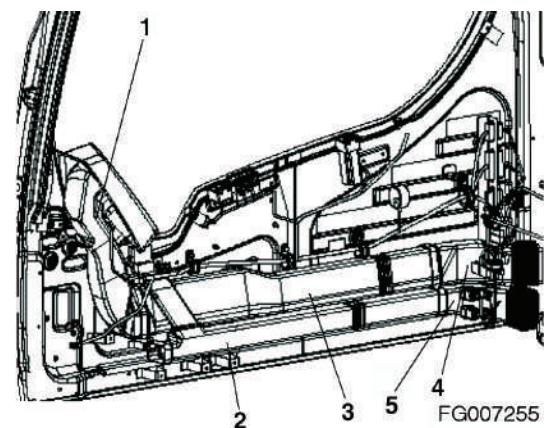

Figure 6
22. Remove air ducts (1, 2, 3, 4 and 5, Figure 6) right side of cabin step by step from the front duct.